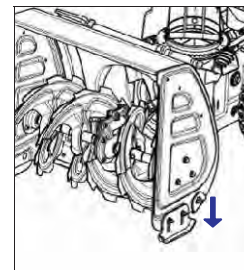

Fig. 17B
- On uneven ground, e.g. gravel paths, the shoes should be adjusted about 30mm (the auger to the ground). (Fig. 17B)